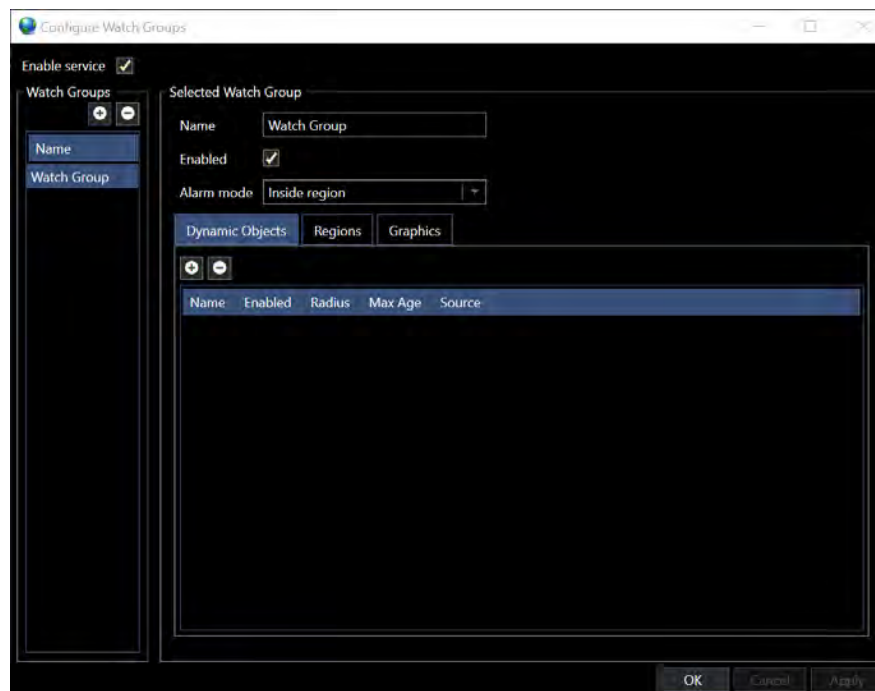

FIGURE 20-3 SELECTED WATCH GROUP CONFIGURATION
1. Select the Watch Group to configure in the left panel (see Figure 20-3) to display the respective configuration in the Selected Watch Group panel on the right
1. Select the Watch Group to configure in the left panel (see Figure 20-3 **Error! Reference source not found.**) to display the respective configuration in the Selected Watch Group panel on the right